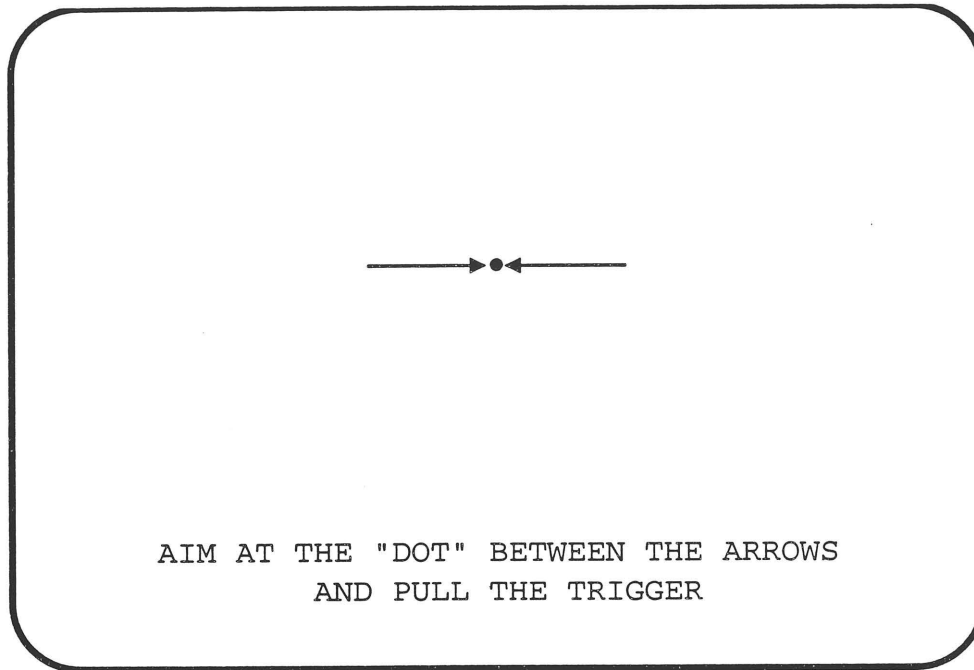

Figure 4-4 Gun Adjustment Screen with cursor
7. After 1 second, a cursor will appear between the arrows, as in Fig. 4-4.